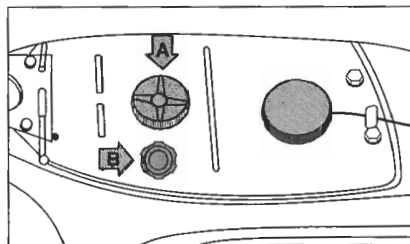

Fig. 8
**Fuel supply:** Both the fuel tank and oil tank are located under the saddle (fig. 8) and are accessible only when the saddle is unlocked and lifted.